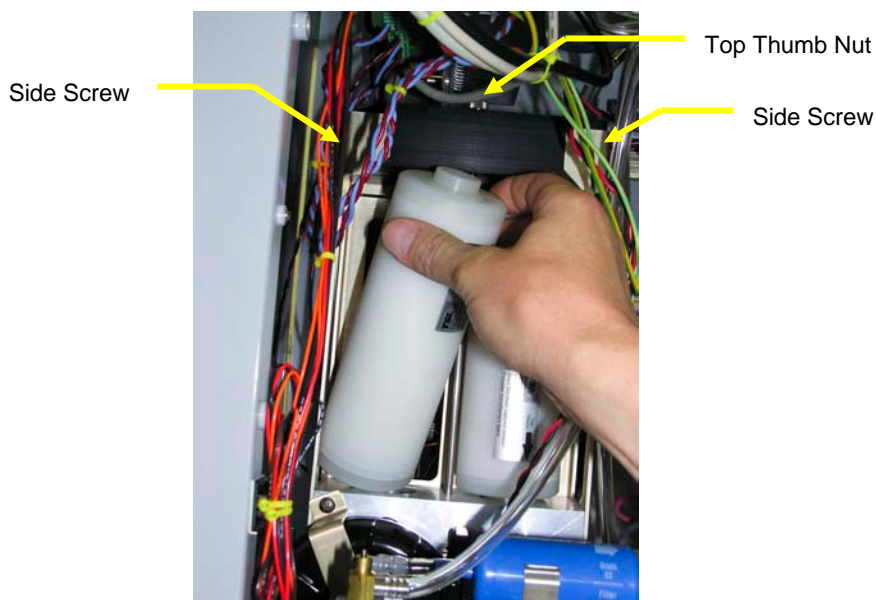

Figure 6-8
6. Replace the left and right filter cartridge making sure that the O-rings are in place on the top and bottom filter manifolds (see Figure 6-8). Observe the correct filter orientation.